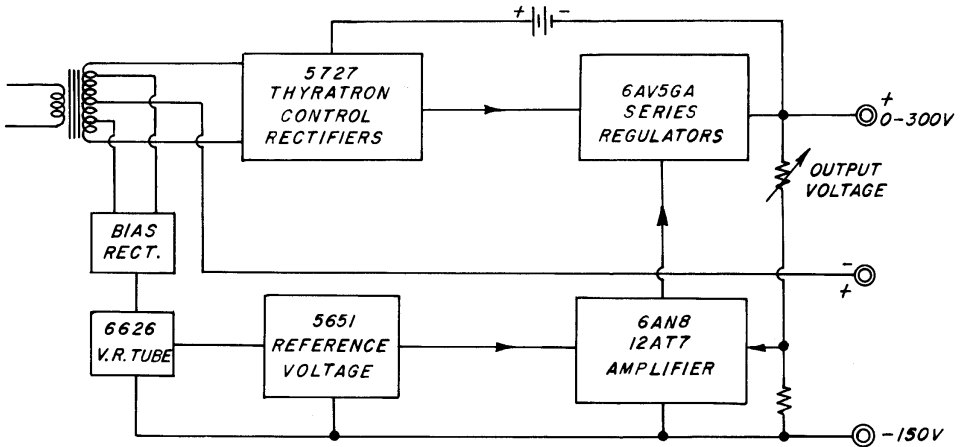

Figure 2. Block Diagram of Power Supply.
2.1 GENERAL. (See Figure 2). The Type 1205-B consists basically of two parts: a series-tube regulator, and a thyatron control rectifier. The series regulator provides fast response, low-drift, and low output impedance over a wide frequency range. The usual high dissipation of such a circuit is averted by use of a thyatron control rectifier, which maintains a constant voltage drop across the series regulator.